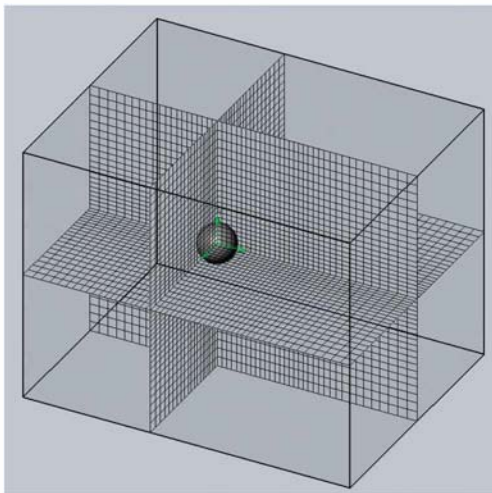

Figure 3.1 Sphere with 3D mesh
In this chapter, we will use Flow Simulation to study the three-dimensional flow of air past a sphere with a diameter of 50 mm at different Reynolds numbers and compare with empirical results for the drag coefficient. The second part of this chapter covers the two-dimensional flow around a cylinder and we will determine the Strouhal number related to vortex shedding from the cylinder. We will start by creating the sphere needed for this simulation; see figure 3.1.
20. Select **Tools>>Flow Simulation>>Global Mesh** from the menu. Slide the **Level of Initial Mesh** to **4** and close the Dialog. Right click anywhere in the graphics window and select **Zoom In/Out** to see computational domain surrounding the sphere. Select **Tools>>Flow Simulation>>Project>>Show Basic Mesh** to see the mesh surrounding the sphere; see figure 3.1.